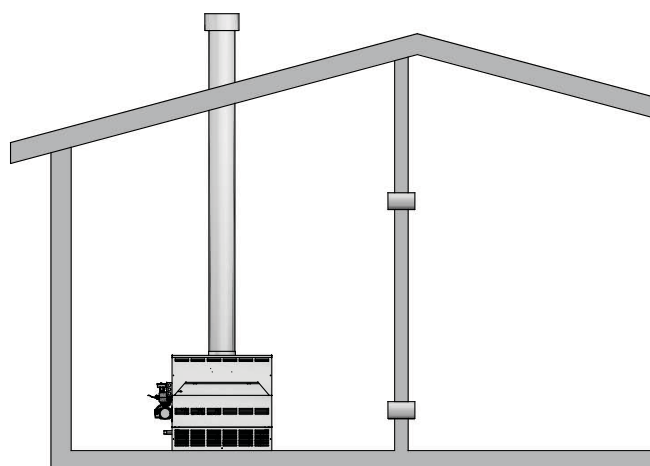

Figure 1-5_Combustion Air from Interior Space
3. If air is taken from another interior space that is adequately ventilated, each of the two openings specified above should have a net free area of one square inch for each 1000 Btu/hr (22cm² per kW) of input, but not less than 100 square inches (645cm²) (see FIG. 1-5).